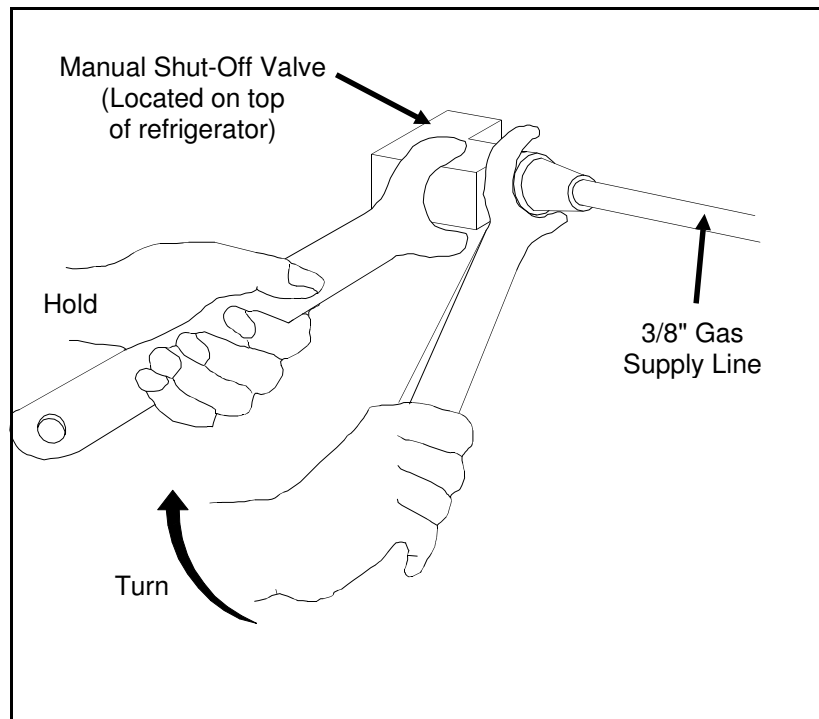

Figure 1 - Double-Wrenching Gas Fittings
- To prevent gas leaks and damage to the gas supply lines and fittings, use two wrenches when connecting or disconnecting gas fittings (See Figure 1 below).